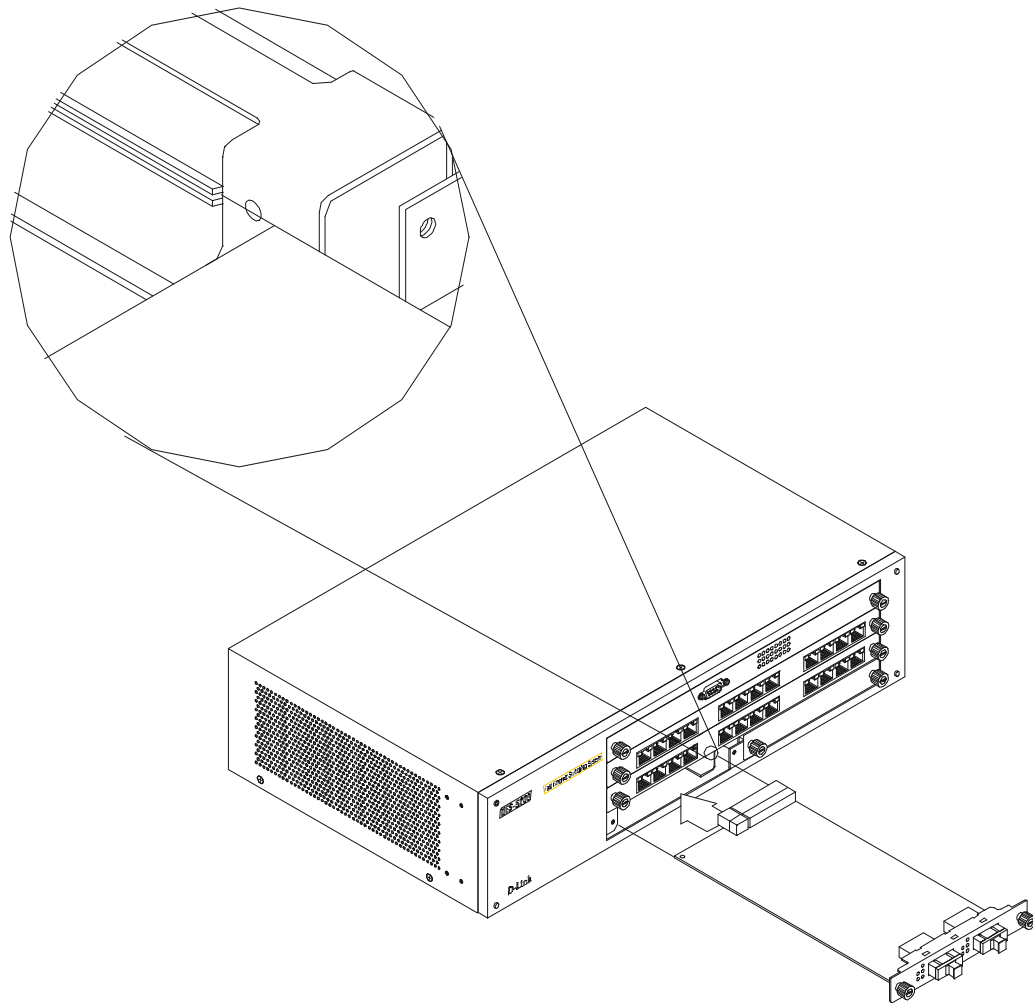

Figure 10: Insert Optional Module
3. Install the new module by inserting it into the guides, see Figure 10, and sliding it in until it stops. Press in firmly until you feel the module snap into place. The module should be level and flush with the rest of the DES-5200. Never force, twist or bend the module. The module slides in smoothly.